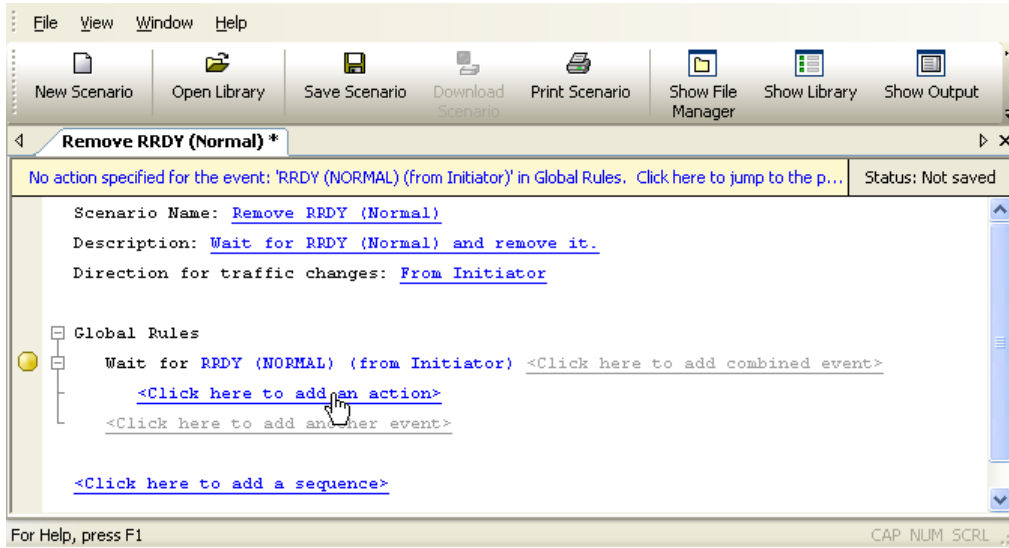

Figure 5.8 Example 1: Entering an Action
- Step 7** In the Global Rules area, click on the prompt to add an action (Figure 5.8).